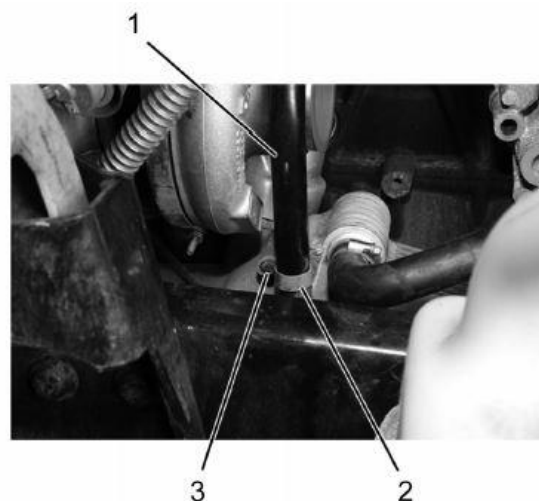

Figure 14: Crankcase Breather Tube
6. Secure crankcase breather tube (Figure 14, Item 1) with bolt (Figure 14, Item 3) and clamp (Figure 14, Item 2).